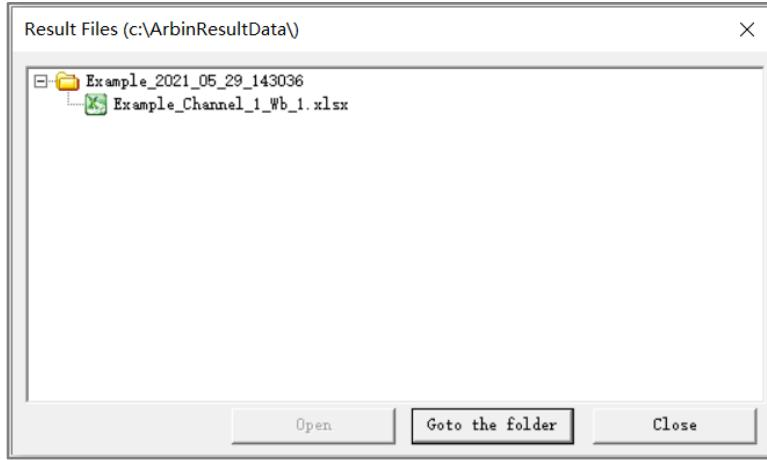

Figure 11-14 Result File in Excel Format
- 5) In the Interface that comes up after export, you can open the exported file to check the data or open the folder where the exported data is stored (Figure 11-14).
- 4) In the Interface that comes up after export, you can open the exported file to check the data or open the folder where the exported data is stored (Figure 11-14).